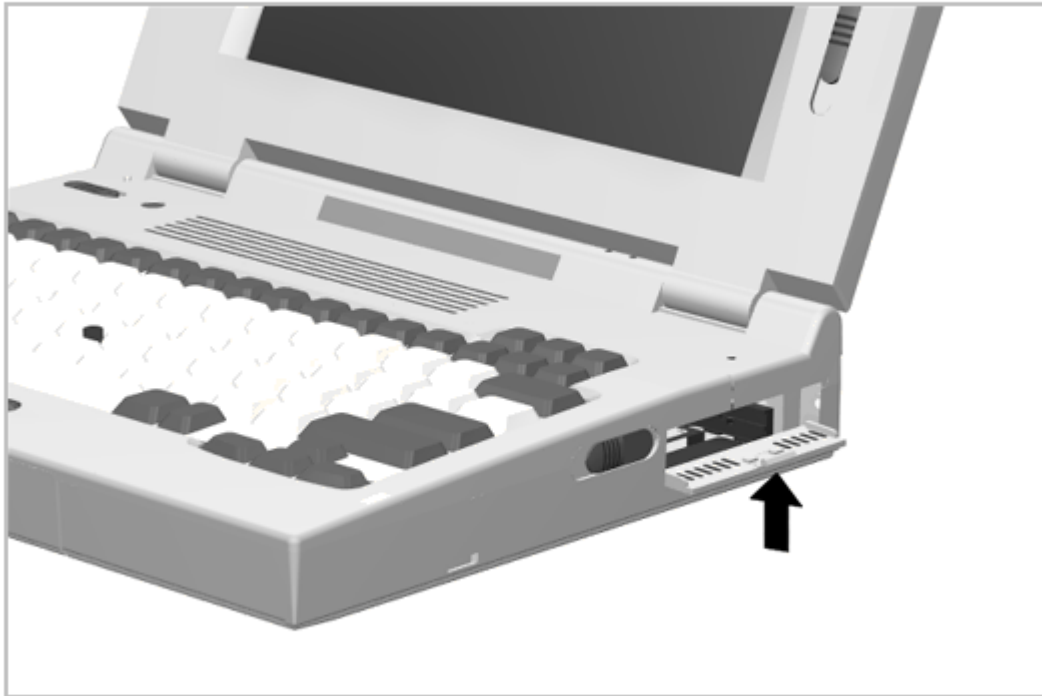

Figure 5-21. Removing the PC Card Door
1. Open the PC Card door (Figure 5-21).
2. Flex the center of the door up until the pivots on each end of the door disengage the pivot holes in the computer housing (Figure 5-21).